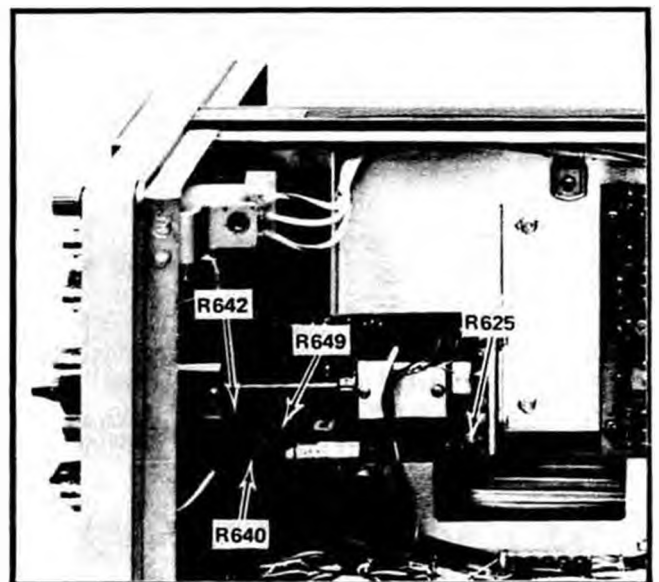

Fig. 5-21. Location of R625, R640, R642, and R649.
①
e. ADJUST—R649 (see Fig. 5-21) for an output voltage of .4 volt.
f. Connect the Precision DC voltmeter to monitor the voltage across R642 (see Fig. 5-21).
h. ADJUST—40 mA R640 (see Fig. 5-21) for a voltage measurement of 30.6 volts.
- t. ADJUST—R625 (see Fig. 5-21) to align the leading edges of the calibrator square wave with the 1 millisecond time markers.
- y. ADJUST—R625 (see Fig. 5-21) for slowest drift of time markers across calibrator square wave.
- ae. ADJUST—repeat steps u through y to adjust R625 (see Fig. 5-21) for slowest drift of time markers.